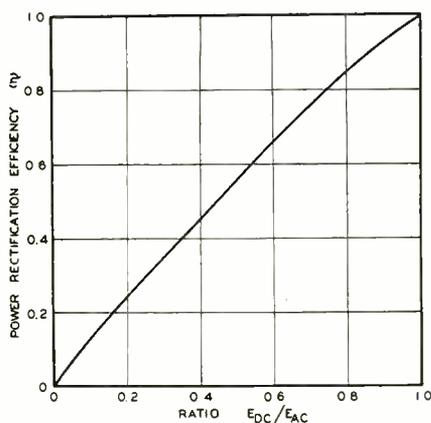

Fig. 6—Curve showing the relation between power rectification efficiency and the ratio of d-c voltage to a-c voltage is nearly linear
In the circuit diagram of the complete modulation monitor, shown in Fig. 6, the meter used has an 0-1 ma range; that is, an 0-1000 $\mu$ a range. With the monitor set up for regular operation and connected to the final i-f stage of a type HRO communication receiver, the signal strength from a modulated oscillator was varied from R3 to R12, by steps, and the following readings taken:
The procedure is as follows: First; when a signal of average strength, (R8), arrives at the grid of the first i-f amplifier,  $V_1$  in Fig. 6, it is amplified in the conventional manner and passed on through  $V_2$  to  $V_3$ , where it meets with full-wave rectification. Full-wave rectification is chosen for obvious reasons.
Fig. 6—Circuit diagram of the complete modulation monitor. It is connected to the final i-f stage of a receiver. For measuring a transmitted signal, the 5000-ohm portion of the  $V_1$  cathode resistor is cut in and the plate and screen circuits of  $V_2$  are closed
soidal alternating voltage  $E_{AD}$ . This follows from the fact that the condenser  $C$  is assumed as having zero reactance. At radio frequencies the reactance of a 0.01 to 0.05  $\mu\text{f}$  condenser will have but a small fraction of the magnitude of the rectifier tube plate resistance. Consequently the diode plate current  $i_p$  flows in pulses during the fraction of the positive half cycle during which the applied alternating voltage  $E_{AC}$  exceeds the equivalent biasing voltage  $E_{DC}$ . These relations are depicted graphically in the usual manner in Fig. 6.
Considering first the determination of the rectification efficiency by the direct measurement of  $E_{Dc}$  and  $E_{Ac}$ , considerable simplification results if we plot  $\eta$  from equation (15) not as a function of the fractional period of flow  $\beta$ , but instead directly as a function of the ratio  $E_{Dc}/E_{Ac}$ . This can be accomplished by means of (11) and the graph of  $\eta$  in Fig. 5. The resulting curve relating the efficiency  $\eta$  as a function of the ratio  $E_{Dc}/E_{Ac}$  is plotted in Fig. 6, and shows the interesting fact that the power rectification efficiency approximates a linear function of the fractional period of flow of the space current pulse.